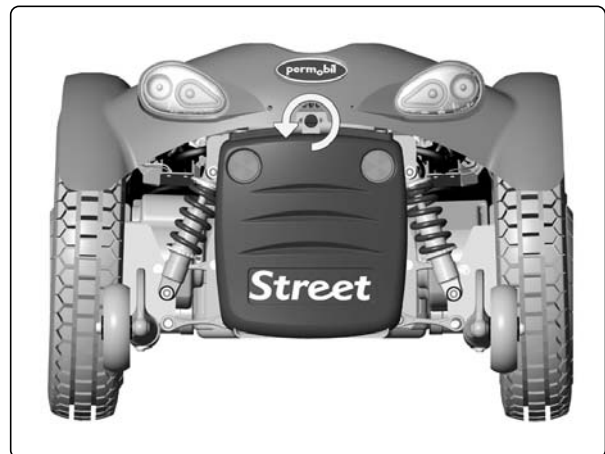

Fig. 7. Battery cover locking knob.
3. Loosen the rear chassis cover by pulling the cover's rear edge straight back so that the guide pins disengage. Open the battery cover by turning the knob 1/4 turn counterclockwise and folding down the cover; see figure 7.
4. Close the battery cover and lock with the knob; see figure 7.